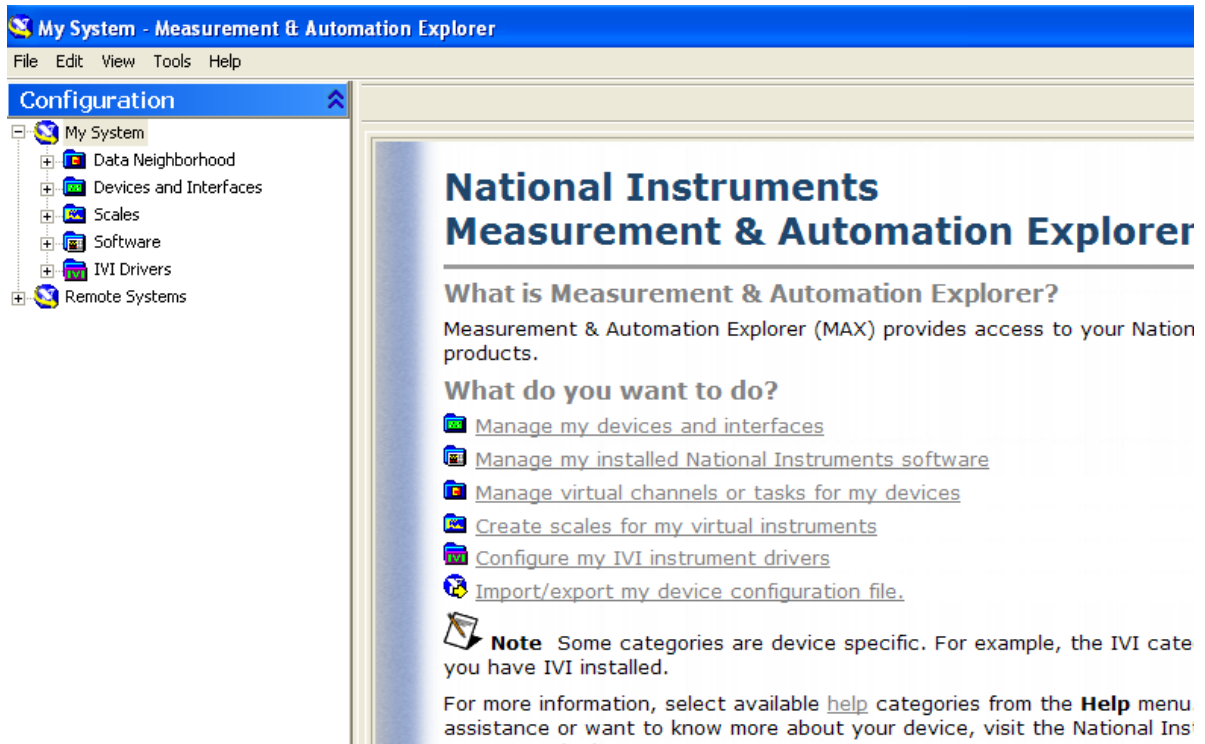

Figure 3. MAX main window
- II. Double click on the Measurement and Automation (MAX) icon on your desktop. Figure 3 will pop up.